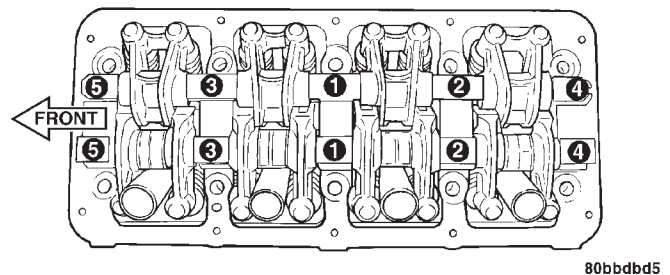

Fig. 47 Rocker Arm Shaft Tightening Sequence
(5) Install front camshaft seal. Camshaft must be installed before the camshaft seal is installed. Refer to procedure in this section.
(6) Install cylinder head. Refer to procedure in this section.
(7) Install rear timing belt cover.
(8) Install camshaft sprocket and tighten to 115 N·m (85 ft. lbs.).
(9) Install timing belt tensioner and timing belt. Refer to procedures in this section.
(10) Install rocker arm assemblies in correct order as removed. Tighten the rocker arm assemblies in sequence shown in (Fig. 47) to 28 N·m (250 in. lbs.).
(11) Install cylinder head cover and tighten fasteners to 12 N·m (105 in. lbs.).